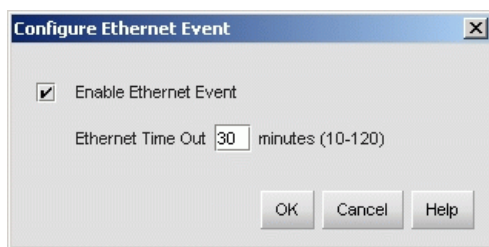

Figure 2-102 Configure Ethernet Events Dialog Box
2. At the SANavigator or EFCM main window, select the *Ethernet Event* option from the *Monitor* menu. The *Configure Ethernet Events* dialog box displays (Figure 2-102).